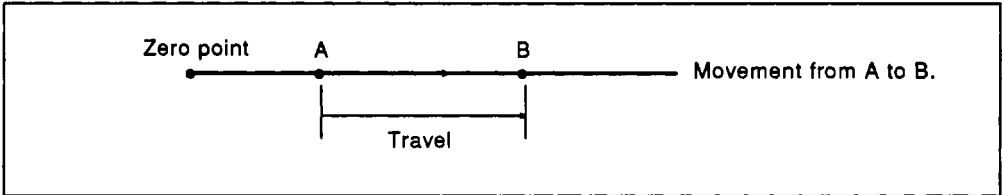

Fig. 3.6 Incremental Method
- (14) Direction setting
- (15) Positioning mode
- In incremental mode positioning, positions are reached with reference to the previous position. (See Fig. 3.6.)